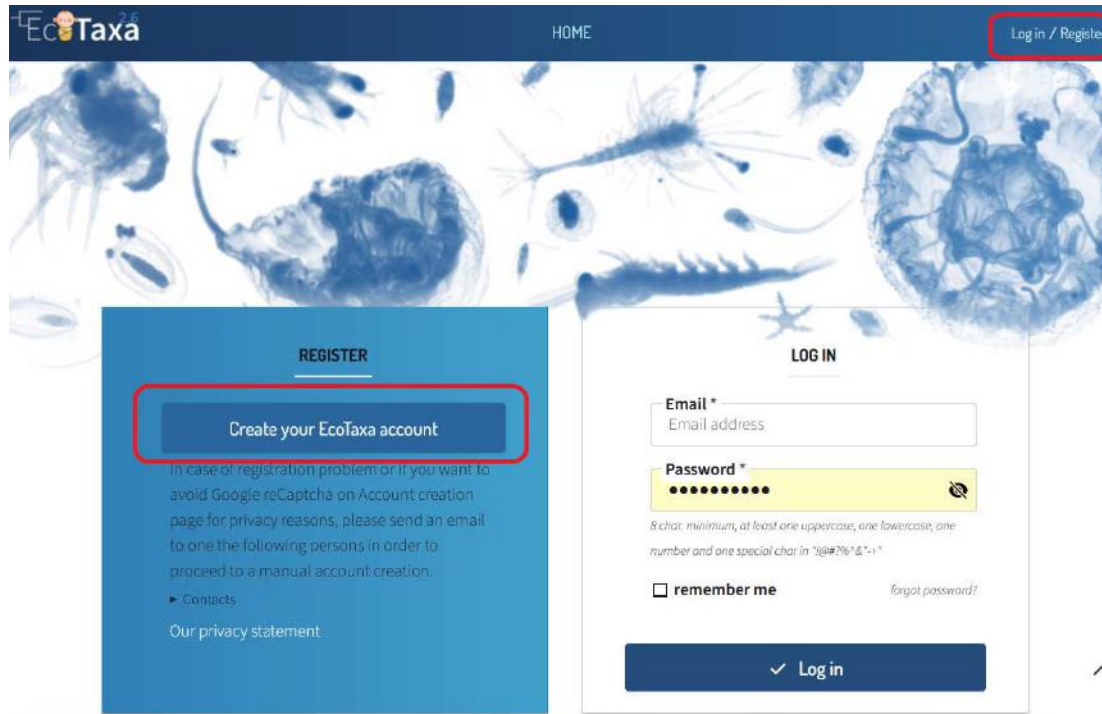

Figure 1: Log in/Register interface
- Create an account on EcoTaxa (<https://ecotaxa.obs-vlfr.fr/>) by clicking on the top right "Log in/Register" then on "Create your EcoTaxa account" (Fig.1).